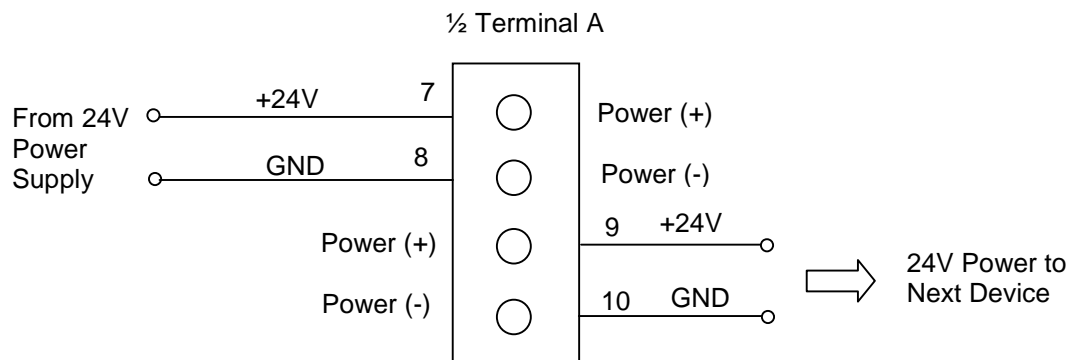

Figure 11 Wire Connection Details for Power
- b) Connect the power wires to the Power terminals as shown in Figure 11.